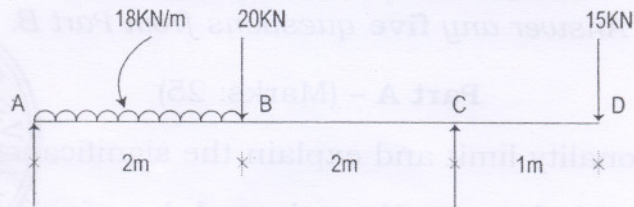

Fig 1
12. (a) Draw the shear force and bending moment diagrams for the fig.1 and write the values on the same with suitable calculations. 10